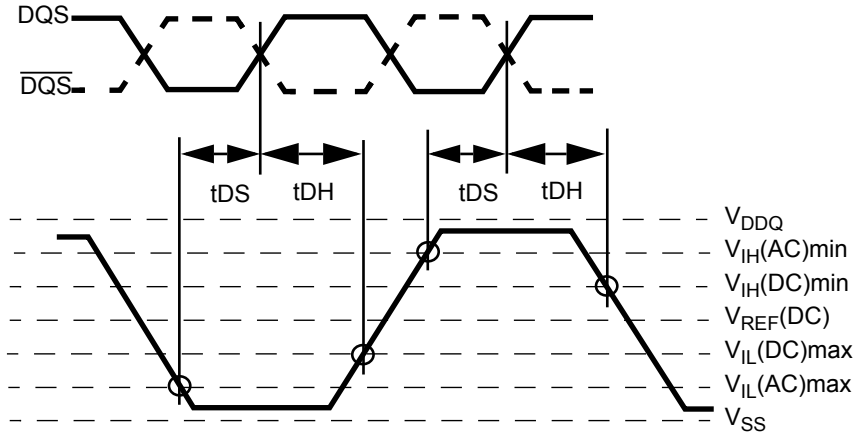

Figure 20. Differential input waveform timing -  $t_{DS}$  and  $t_{DH}$
20. Input waveform timing  $t_{DS}$  with differential data strobe enabled  $MR[\text{bit}10]=0$ , is referenced from the input signal crossing at the  $V_{IH}(\text{AC})$  level to the differential data strobe crosspoint for a rising signal, and from the input signal crossing at the  $V_{IL}(\text{AC})$  level to the differential data strobe crosspoint for a falling signal applied to the device under test.  $DQS$ ,  $\overline{DQS}$  signals must be monotonic between  $V_{IL}(\text{DC})_{\text{max}}$  and  $V_{IH}(\text{DC})_{\text{min}}$ . See Figure 20.
21. Input waveform timing  $t_{DH}$  with differential data strobe enabled  $MR[\text{bit}10]=0$ , is referenced from the differential data strobe crosspoint to the input signal crossing at the  $V_{IH}(\text{DC})$  level for a falling signal and from the differential data strobe crosspoint to the input signal crossing at the  $V_{IL}(\text{DC})$  level for a rising signal applied to the device under test.  $DQS$ ,  $\overline{DQS}$  signals must be monotonic between  $V_{IL}(\text{DC})_{\text{max}}$  and  $V_{IH}(\text{DC})_{\text{min}}$ . See Figure 20.